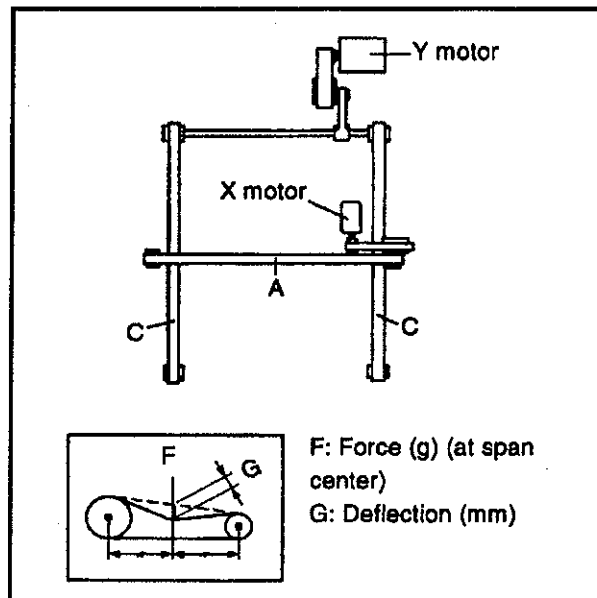

FIG.2
- (6) When applying a force of 500g to drive belt C, amount of deflection G must be $5.0 \pm 1.0\text{mm}$ (Fig.2).